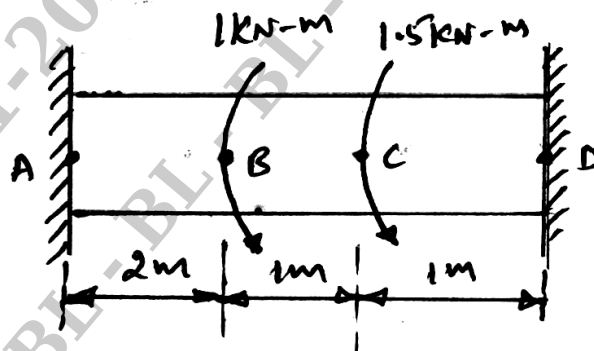

Fig Q6(b)
b. A bar of circular cross section having a diameter of 50 mm is firmly fixed at its ends and subjected to a torque at B and C as shown in Fig Q6(b). Determine maximum angle of twist and shear stress. Take $G = 7 \times 10^4 \text{ N/mm}^2$ and $E = 2 \times 10^5 \text{ N/mm}^2$.